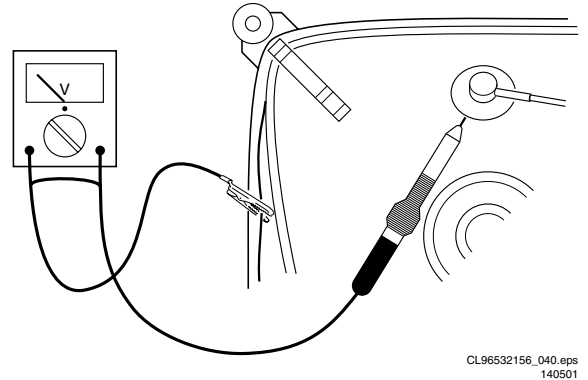

Figure 2-1 Discharge picture tube
- In order to prevent damage to ICs and transistors, avoid all high voltage flashovers. In order to prevent damage to the picture tube, use the method shown in Fig. 2-1, to discharge the picture tube. Use a high voltage probe and a multi-meter (position VDC). Discharge until the meter reading is 0 V (after approx. 30 s).